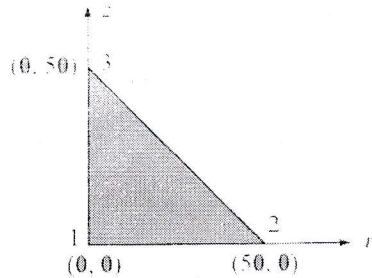

Figure 2
6. For the axisymmetric element shown in Figure 2, determine the element stiffness matrix. Take $E=200$ GPa, and $\nu=0.3$. [10]